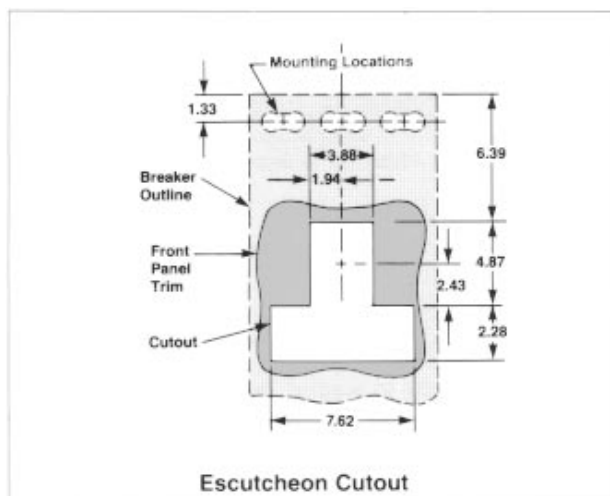

Figure 5
- If installation requires use of front panel trim, provide cutout for breaker escutcheon (Figure 5).